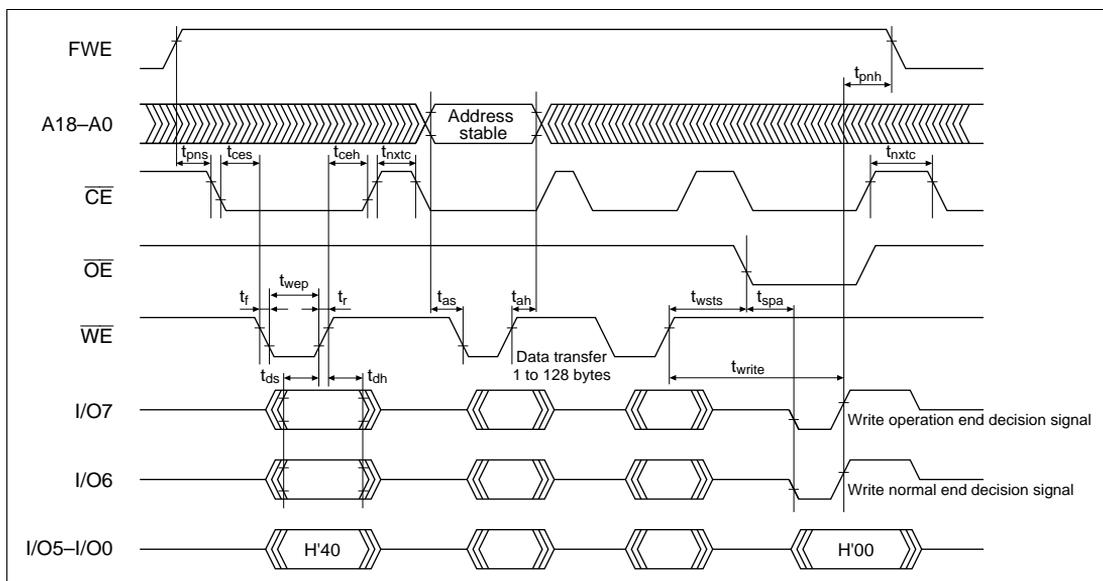

Figure 20-22 Auto-Program Mode Timing Waveforms
4. Memory address transfer is performed in the second cycle (figure 20-22). Do not perform transfer after the third cycle.